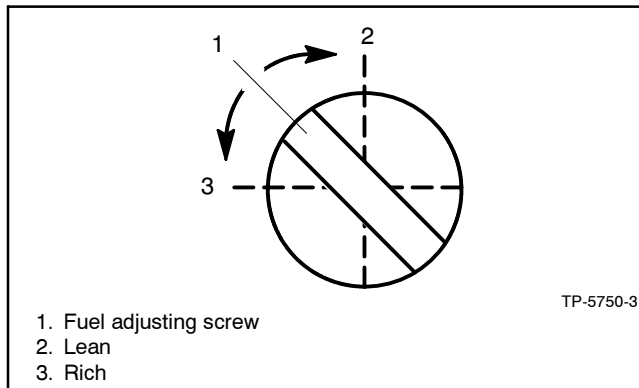

Figure 3-6 Fuel Mixture Adjustment, Typical
2. Adjust the engine fuel mixture screw (Figure 3-6) until the engine runs smoothly.